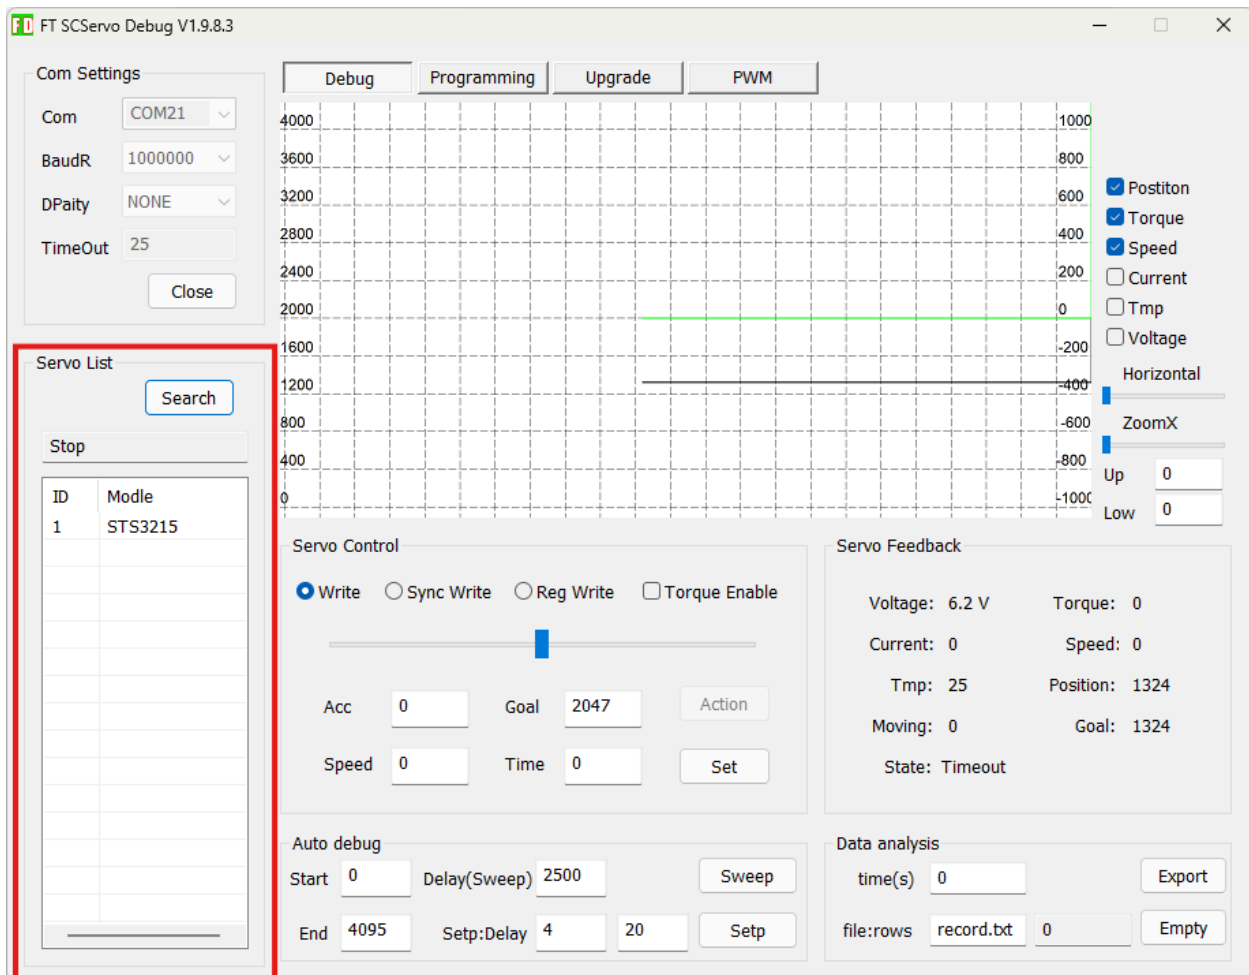

Figure 2.2 - Servo Search List
6. Select "Search" at the top of the Servo List as shown in Figure 2.2. A motor should appear as shown in the figure. If a motor does not appear, the selected COM port is incorrect. Change this in the COM Settings